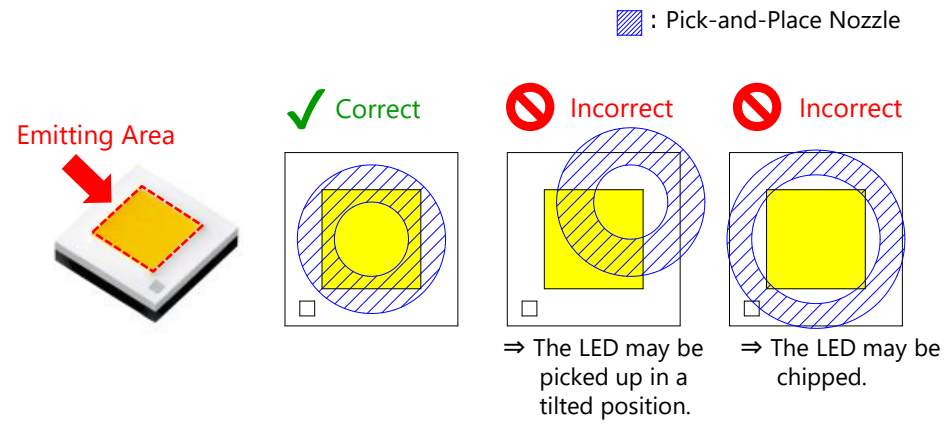

Figure 3. Examples of Correct/Incorrect LED Pick-up Positions
2. If the LED pick-up position is far from the center of the emitting area or if the size and/or shape of the pick-and-place nozzle being used is inappropriate, it may cause the LED to be picked up in a tilted position and/or chipped; see Figure 3.